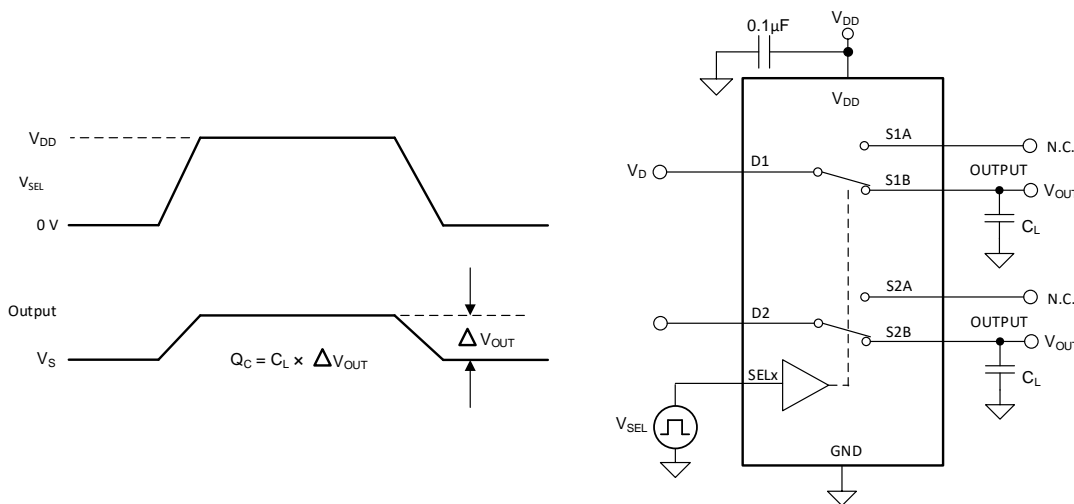

Figure 21. Charge-Injection Measurement Setup
The TMUX1136 has a transmission-gate topology. Any mismatch in capacitance between the NMOS and PMOS transistors results in a charge injected into the drain or source during the falling or rising edge of the gate signal. The amount of charge injected into the source or drain of the device is known as charge injection, and is denoted by the symbol Q_C . Figure 21 shows the setup used to measure charge injection from Drain (D) to Source (Sx).